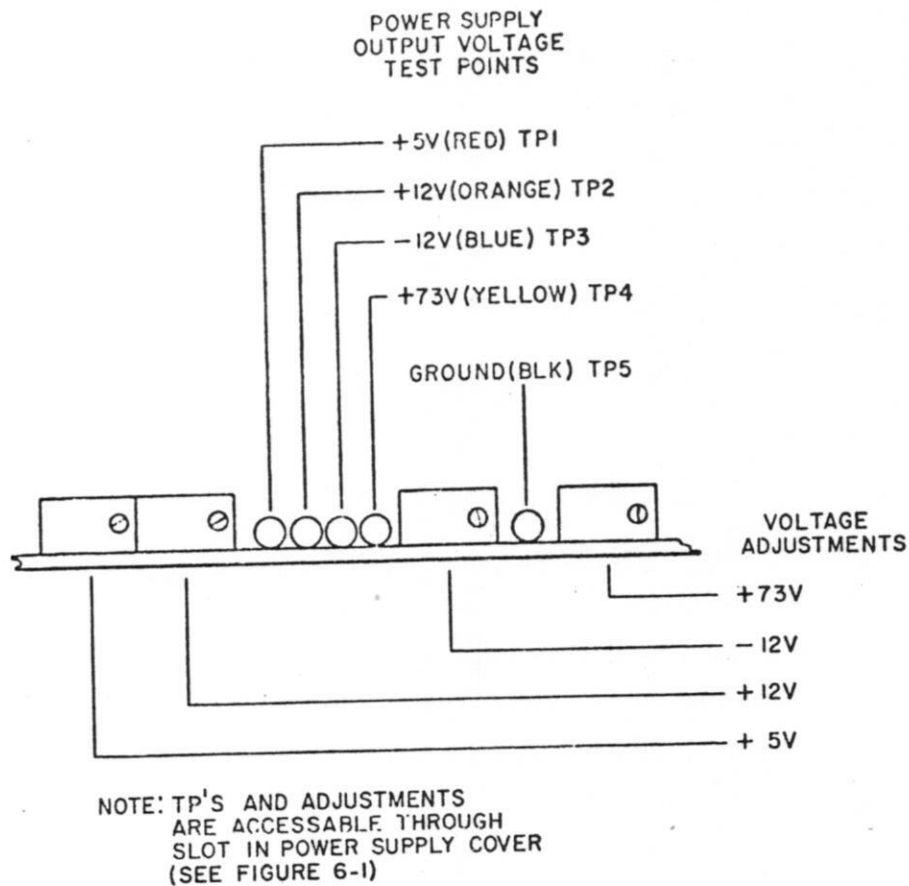

Figure 6-2. Power Supply Voltage Adjustments
- Connect negative test lead of multimeter to black test jack on top of printed-circuit board (see Figure 6-2).
- Remove test lead from yellow test jack and connect it to orange test jack (see Figure 6-2).
- Remove test lead from orange test jack and connect it to red test jack (see Figure 6-2).
- Connect positive test lead of multimeter to blue test jack (see Figure 6-2).